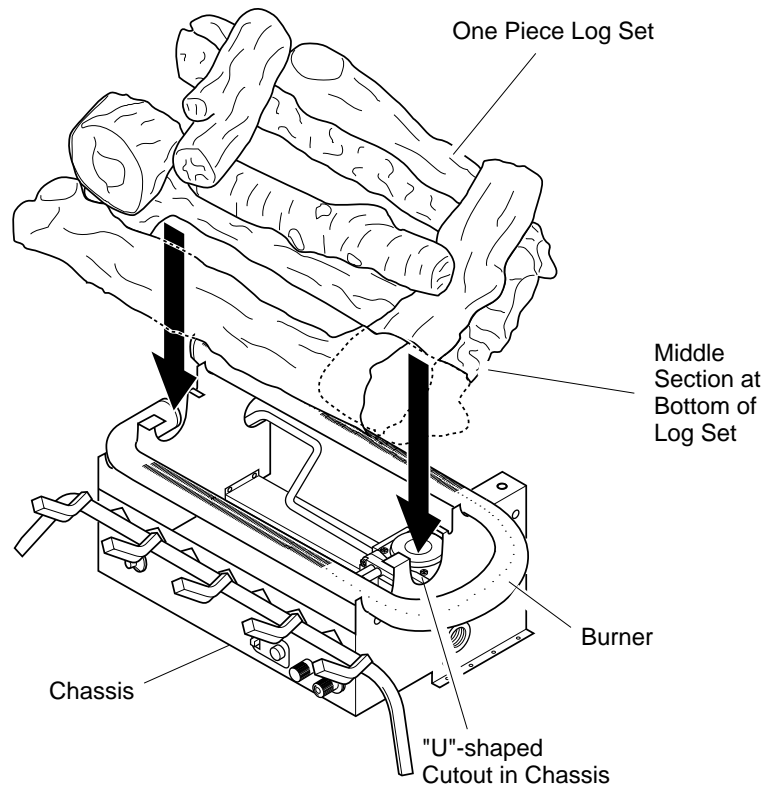

Figure 16 - Installing One-Piece Log Set - Golden Oak Logs Shown
1. Place one-piece log set on grate to fit as illustrated in Figure 16. Make sure middle section at bottom of log set is seated into "U"-shaped cutout in center of chassis (see Figure 16). Log will fit securely on chassis. *Note:* 36" model has more features but fits on the chassis the same. **IMPORTANT:** Make sure log does not cover any burner ports.